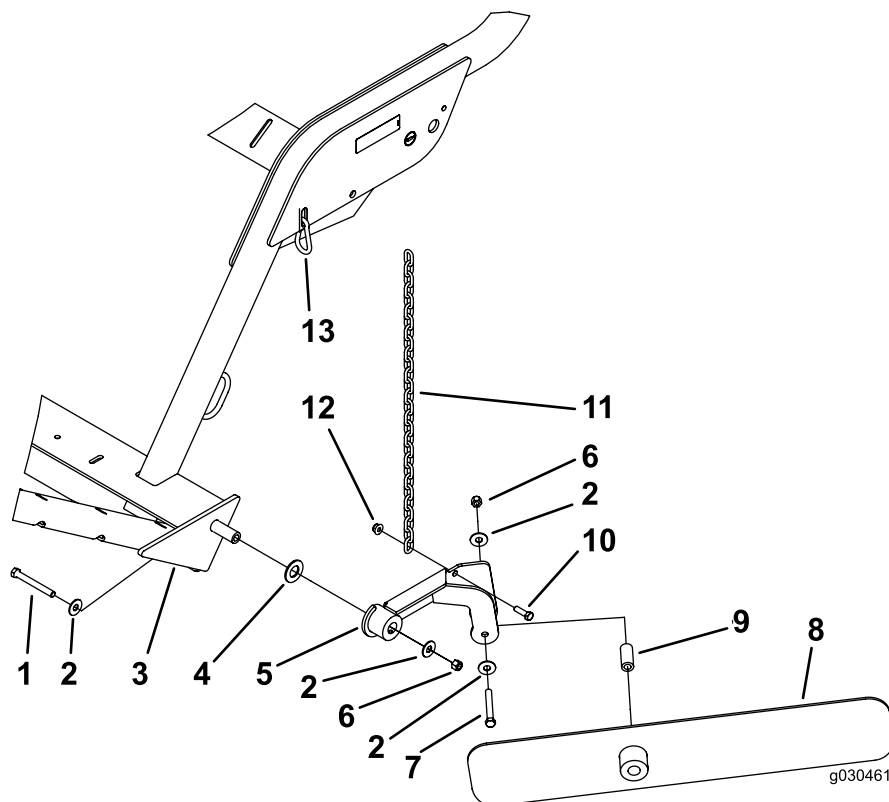

Figure 15
Note: Position components as shown in Figure 15.
2. Secure the windrow blade to the mounting assembly with a bolt (7/16 x 3-1/4 inch), 2 flatwashers, a spacer and a locknut (7/16 inch). Assemble the components as shown in Figure 15.
3. Secure the chain to the blade mounting assembly with a bolt (3/8 x 1-1/4 inch) and a flange nut (3/8 inch) (Figure 15).
- Secure the other end of the chain to the slot in the frame with the snap link (Figure 15).